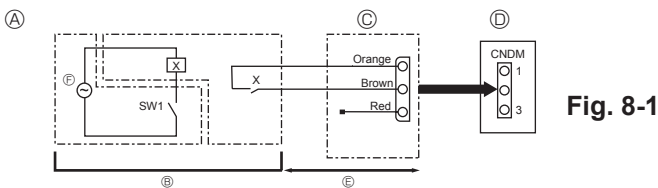

Fig. 8-1
- (A) Circuit diagram example (low noise mode)
- (B) On-site arrangement
- (C) External input adapter (PAC-SC36NA-E)
- (D) Outdoor unit control board
- (E) Max. 10 m
- (F) Power supply for relay
8.1. Low noise mode (on-site modification) (Fig. 8-1)